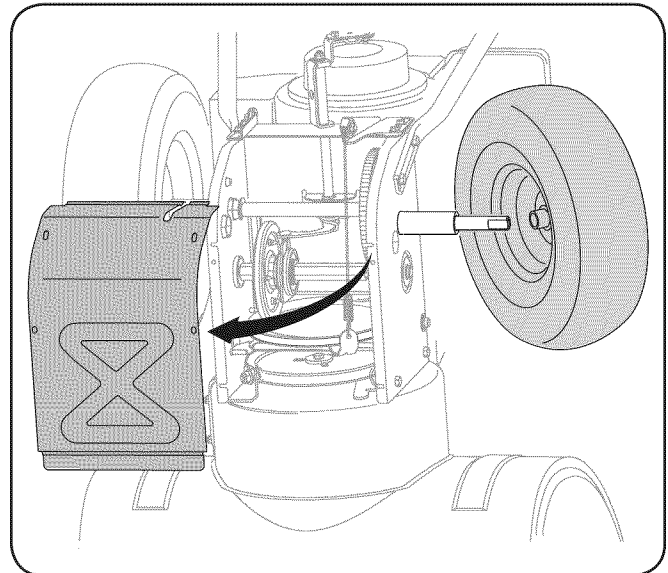

Fig. 7-8
3. Remove the frame cover from the underside of the snow thrower by removing the self-tapping screws which secure it. See Fig. 7-8.
4. Remove the frame cover from the underside of the snow thrower by removing the self-tapping screws which secure it. Remove the right-hand wheel by removing the screw and bell washer which secure it to the axle. See Fig. 7-8.